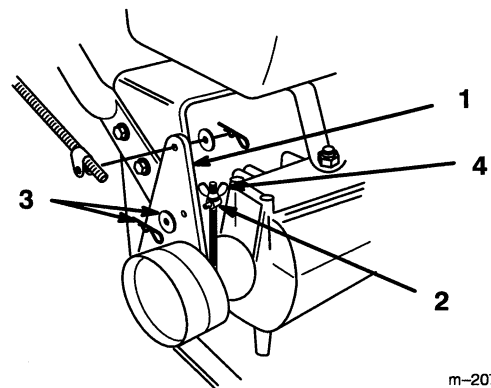

Figure 9
6. If brake adjustment is required, remove hairpin cotter and washer securing brake rod fitting to idler bracket (Fig. 9).
7. Adjust wing nut up or down on brake rod and secure fitting to idler bracket (Fig. 9). Check adjustment and readjust if necessary.